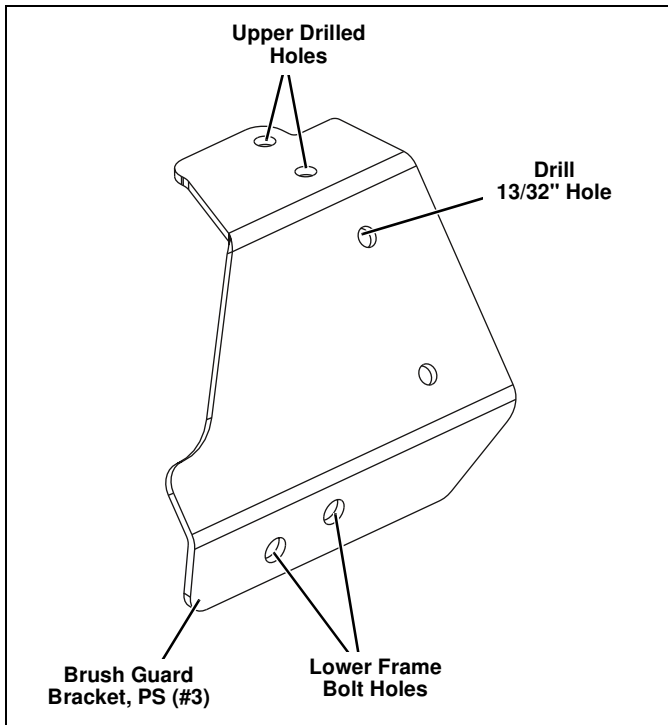

Figure 4
- Repeat step 4 to drill the last hole into the back Passenger Side of the Brush Guard. (See Figure 4.)